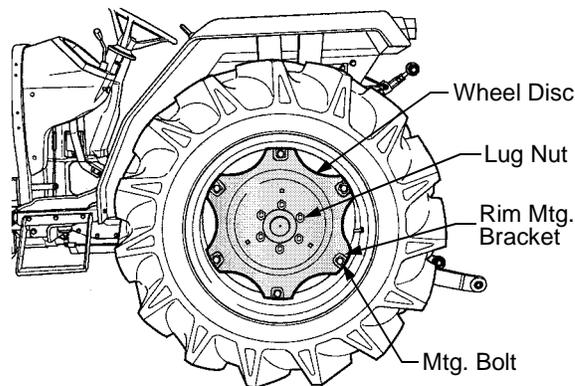
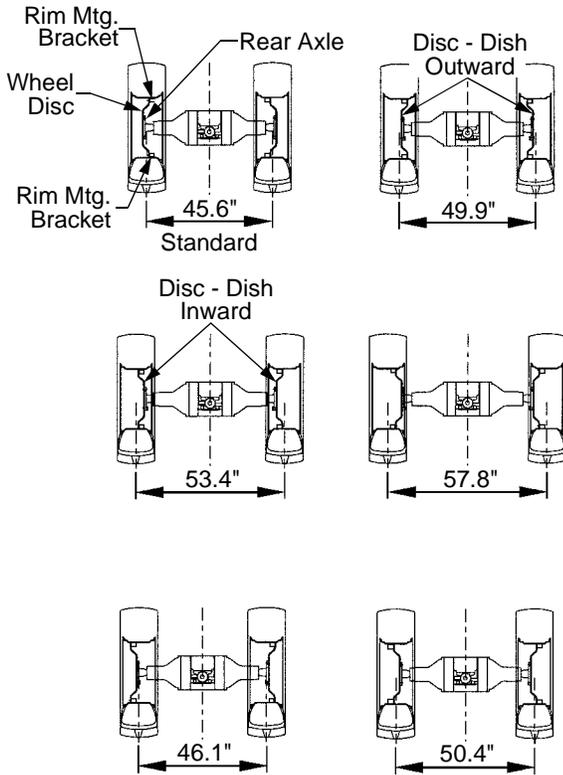

Figure 48
Figure 49
When operating the tractor in the field, it is sometimes necessary to change the rear wheel tread width to a narrower position to avoid plant rows, or to widen the tread to improve stability when operating on slopes. The rear wheel tread width can be adjusted to any of 6 different positions ranging from 45.6 to 57.8 inches by removing the lug nuts and mounting bolts; then changing the position of the wheel disc in relationship to the rim mounting brackets and/or the rear axle. See Figure 48 and Figure 49.
- Adjust the tread widths as shown by changing the mounting relationship of the wheel disc to the rim mounting brackets and/or the relationship of the dish of the wheel disc to the axle. See Figure 49.